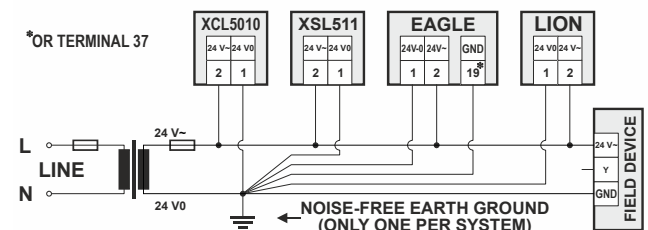

Fig. 36. Connecting and earthing the EAGLE together with other, mixed controllers
- Connect earth ground to the respective terminal of the controllers, see Fig. 36.